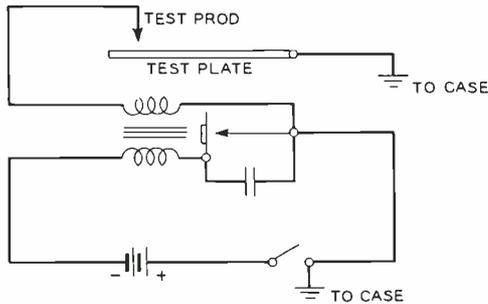

Fig. 4—Circuit schematic of the spark test set
To discover conducting regions in stained mica prior to the power factor test, a small test set was designed. This is a battery-operated spark coil arranged as shown in Figure 4. A sheet of mica is placed on the test plate, as shown in Figure 5, and the test point is moved over its surface. Any defective regions will be indicated by sparking at or in the vicinity of the point. Only a few seconds are required for each test.
Three other graded multiple arrangements, of 11, 19, and 12 trunks, which have been used extensively in the past, before the improved present standard graded arrangements were introduced, are shown in Figure 4. In these diagrams only the DTA terminals are represented, which is the method of picturing graded multiple arrangements in the standard Bell System information.
Fig. 4—Three graded multiple subgroups that were used before the new arrangements went into effect had: at A, 80 selectors on 11 trunks; at B, 40 selectors on 19 trunks; and at C, 60 selectors on 12 trunks
Fig. 5—Three of the graded multiple arrangements that would now be used in place of those shown in Figure 4 provide: at A, 160 selectors on 20 trunks; at B, 60 selectors on 27 trunks; and at C, 160 selectors on 29 trunks
Figure 5 shows three of the present standard graded forms which are used in practice in place of the three forms shown in Figure 4. It will be observed that the form at (A) for 160